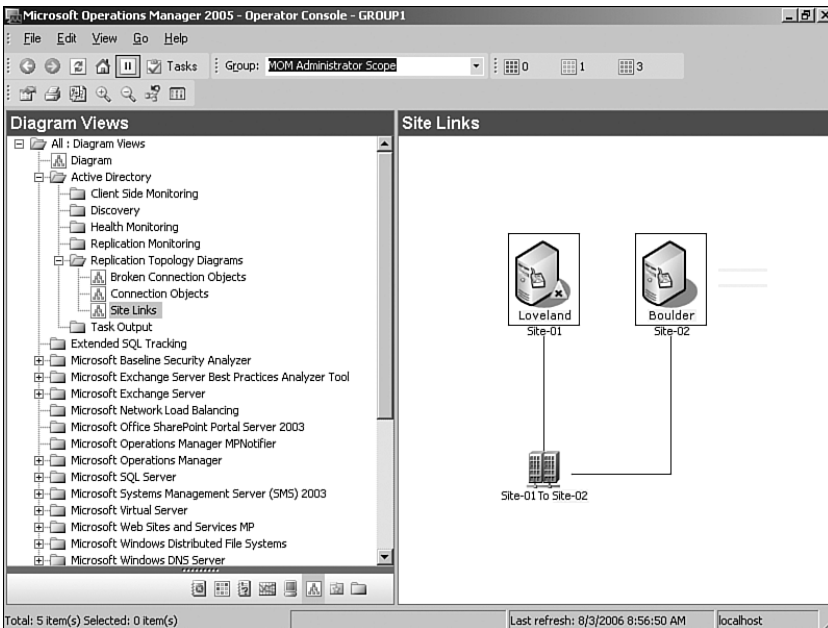

FIGURE 16.1 Site Links Active Directory topology view.
- ▶ Site Links (Site → Site), illustrated in Figure 16.1.